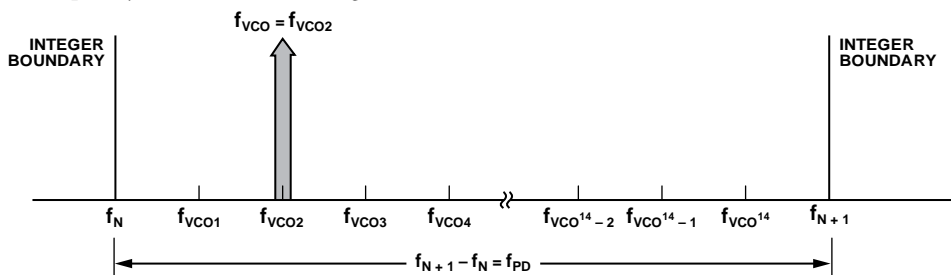

Figure 46. Exact Frequency Tuning
f_{VCOk} is the channel step frequency. $0 < k < 2^{24} - 1$, as shown in Figure 46.
Some fractional PLLs are able to achieve these exact frequencies by adjusting (shortening) the length of the phase accumulator (the denominator or the modulus of the Σ - Δ modulator) so that the Σ - Δ modulator phase accumulator repeats at an exact period related to the interval frequency ($f_{VCOk} - f_{VCO(k-1)}$) in Figure 46. Consequently, the shortened accumulator results in more frequent repeating patterns and, as a result, often leads to spurious emissions at multiples of the repeating pattern period, or at harmonic frequencies of $f_{VCOk} - f_{VCO(k-1)}$. For example, in some applications, these intervals may represent the spacing between radio channels, with the spurious occurring at multiples of the channel spacing.
When multiple, equally spaced, exact frequency channels are needed that fall within the same interval (that is, $f_N \leq f_{VCOk} < f_{N+1}$), where f_{VCOk} is shown in Figure 46 and $1 \leq k \leq 2^{14}$, it is possible to maintain the same integer-N (Register 0x03) and exact frequency register (Register 0x0C) settings and only update the fractional register (Register 0x04) setting. The exact frequency channel mode is possible when Equation 16 is satisfied for at least two equally spaced adjacent frequency channels, that is, the channel step size.
To configure the HMC832A for exact frequency channel mode, initially program the integer (Register 0x03) and the exact frequency (Register 0x0C) for the smallest f_{VCO} frequency (f_{VCO1} in Figure 46), as follows:
- Calculate and program the integer register setting Register 0x03 = $N_{INT} = \text{floor}(f_{VCO1}/f_{PD})$, where f_{VCO1} is shown in Figure 46 and corresponds to the minimum channel VCO frequency. Then, the lower integer boundary frequency is given by $f_N = N_{INT} \times f_{PD}$.
where $f_N = \text{floor}(f_{VCO1}/f_{PD})$, and f_{VCO1} , as shown in Figure 46, represents the smallest channel VCO frequency that is greater than f_N .
4. To change from Channel 1 ($f_{VCO1} = 2800.2$ MHz) to Channel 2 ($f_{VCO2} = 2800.3$ MHz), only Register 0x04 needs to be programmed, as long as all of the desired exact frequencies, f_{VCOk} (see Figure 46), fall between the same integer-N boundaries ($f_N < f_{VCOk} < f_{N+1}$). In that case,